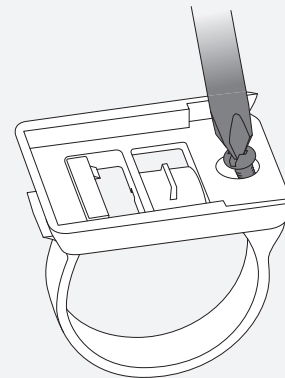

Figure 24. Tighten Screw.
6. From the front side of the computer, insert the screw and tighten (Figure 24).